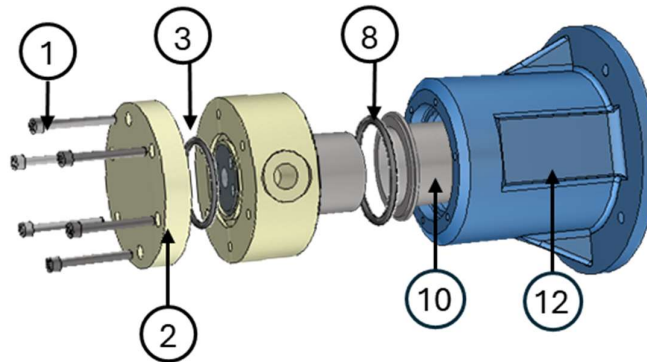

Figure 4
1. Disassemble the pump by removing the screws (1) using an Allen key, removing the cover (2) from the bracket (12), freeing the rear casing (10) and the O-rings (3) and (8) that will be replaced. See figure 4
- 8-Fit the pump body(8) and the rear casing (10) and lock everything by screwing the cover (2) onto the bracket (12) using the screws (1) (refer to Fig.4)